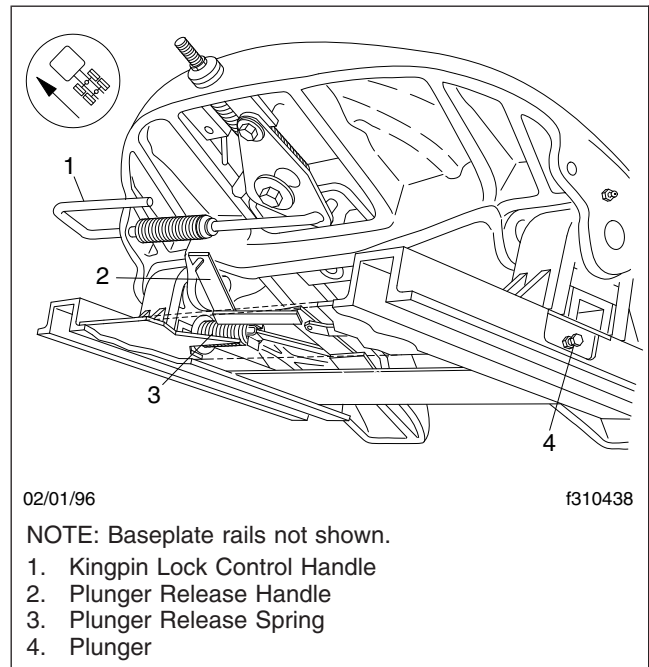
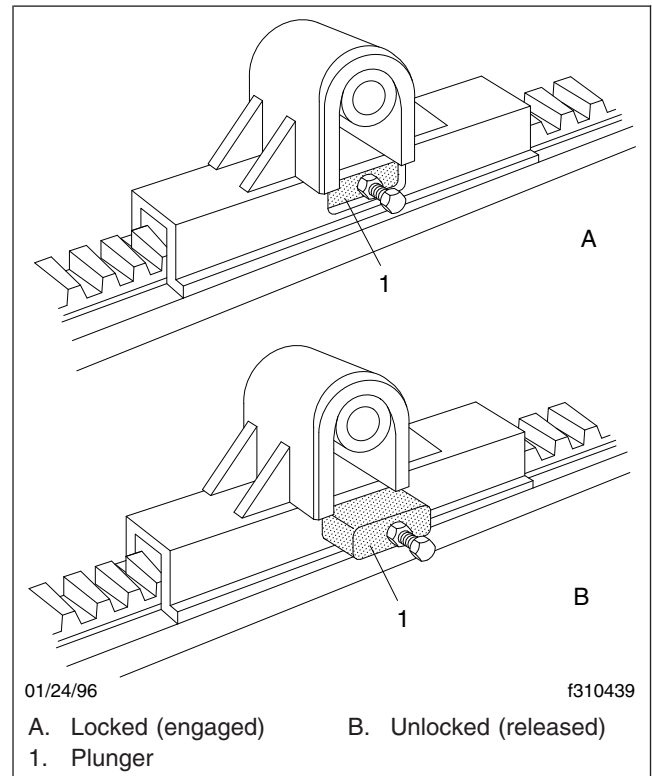

Fig. 10.3, Manual Release Slide
Fig. 10.7, Plunger Positions
The manual release slide assembly (**Fig. 10.3**) is equipped with a single release lever. Pulling on the release lever unlocks both plungers.
- 2.2 For manual release models, pull the release lever (Fig. 10.3) using a release hook, or other suitable tool. Make sure both slide plungers have released. See Fig. 10.7. If the plungers haven't released (haven't come out), lower the trailer landing gear to relieve pressure on the plungers.
- 8.1 For air-operated models, set the cab-operated control switch to LOCK. Visually check the slide plungers to make sure they are engaged in the fully locked position. See Fig. 10.7.
- 8.2 For manual release models, trip the release lever (Fig. 10.3) using a release hook or other suitable tool. Make sure that both plungers have locked (retracted into
their pockets), and are fully engaged in the rack teeth. See Fig. 10.7. It may be necessary to move the tractor slightly while keeping the trailer brakes locked.